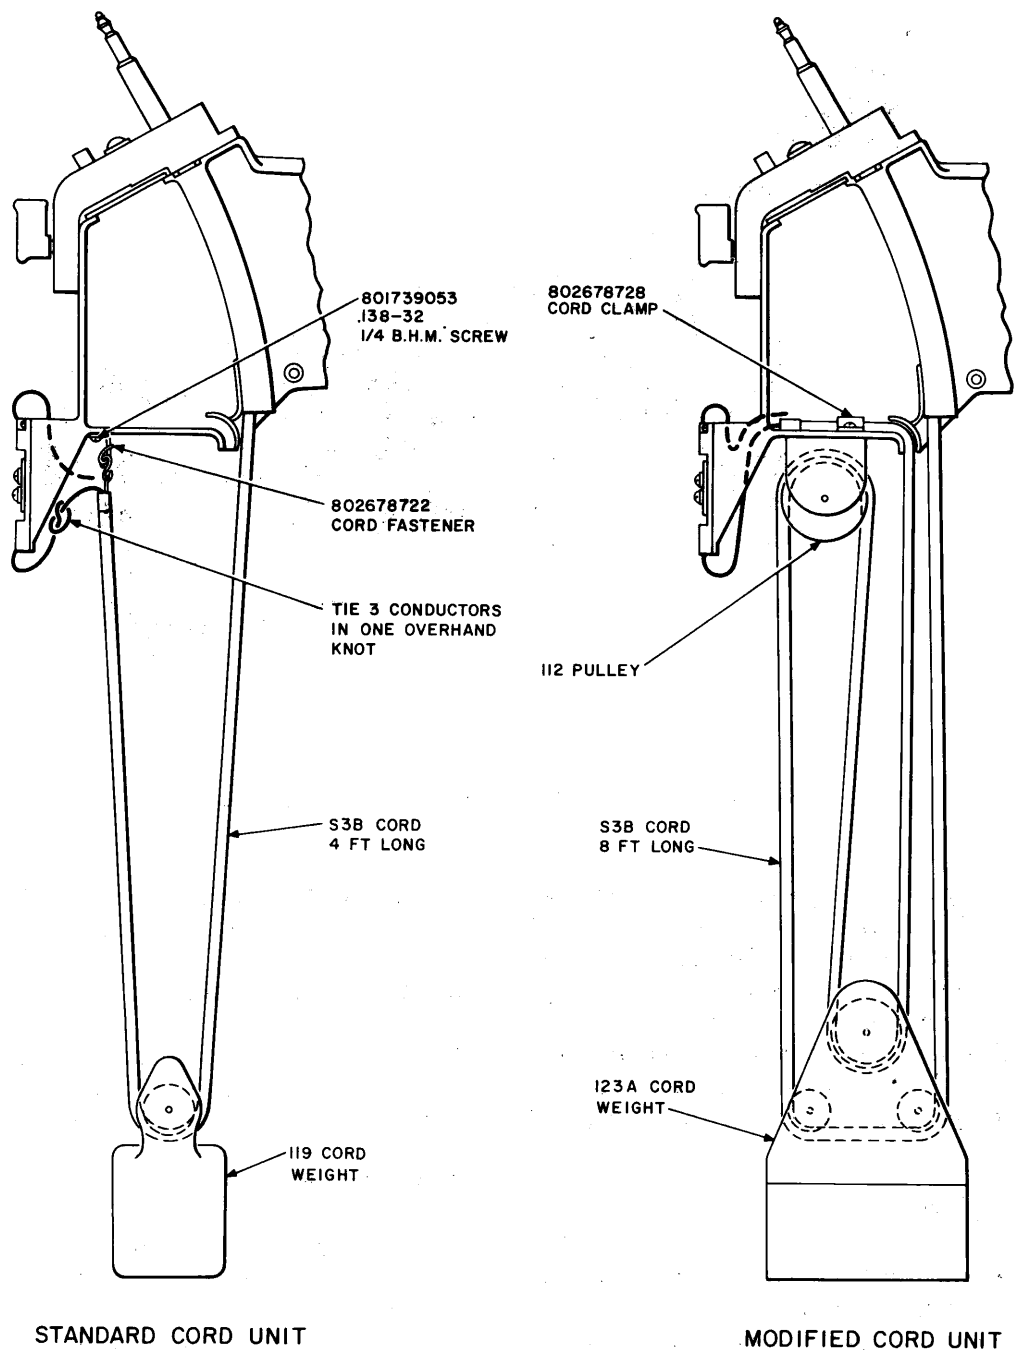

Fig. 9—Modification of Cord Unit
801850397), which are also ordered separately and installed locally. The cord unit normally furnished is arranged for through supervision, but may be converted to nonthrough supervision by insulating certain contacts of the RB relay with plastic sleeves. Sixty plastic sleeves are furnished with the basic switchboard inside the rear cover. For multiposition installations, long cords may be provided by replacing the standard length cords and weights (Fig. 9).
- (4) Modify the standard cord unit using an 8-foot cord as shown in Fig. 9.